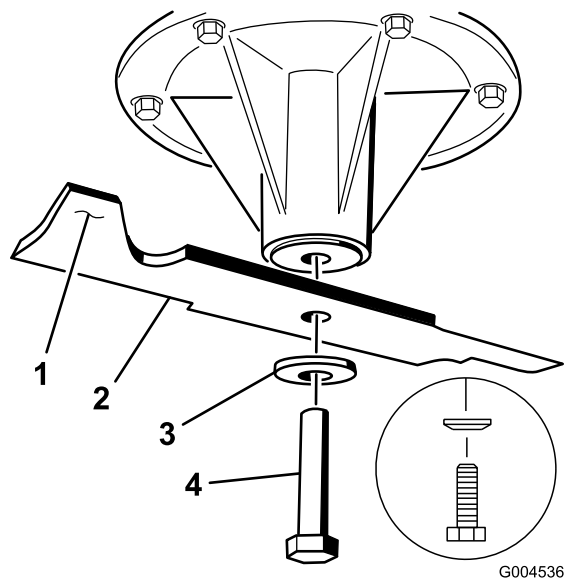

Figure 84
1. Install the blade onto the spindle shaft (Figure 84).
2. Install the spring disk and blade bolt (Figure 84).
**Note:** The spring-disk cone must be installed toward the bolt head (Figure 84).